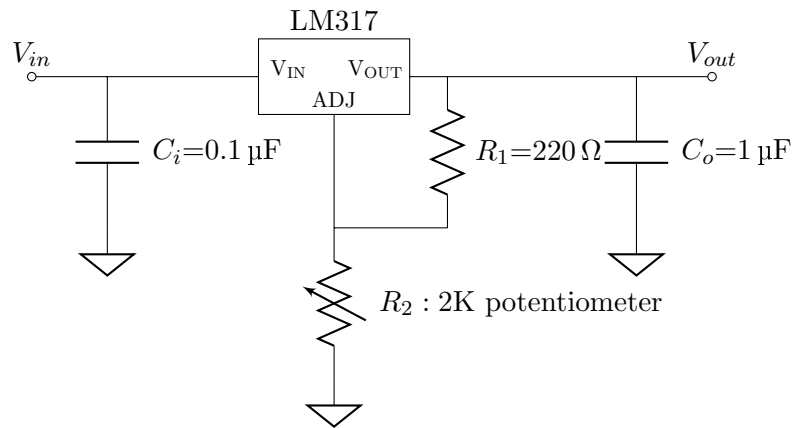
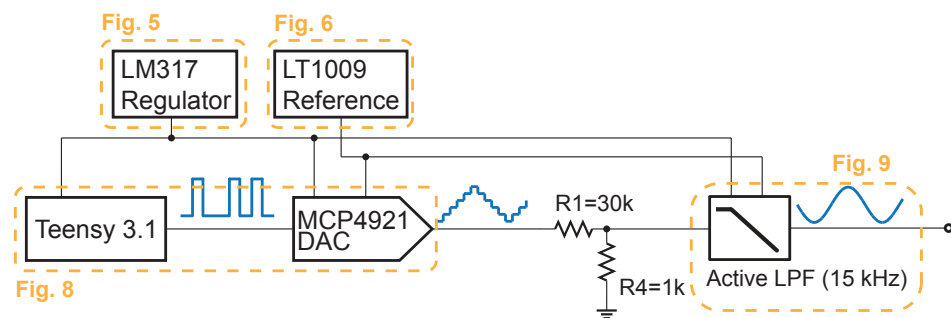

Figure 5: Schematic of the voltage regulator circuit using LM317.
Figure 11: Block diagram of the PCB design.
1. Using Fig. 5 as a reference, build the regulator circuit on the breadboard. You should be able to find the LM317 pinout diagram from its datasheet, which you find from online. *As a general suggestion, it is important to keep your circuit well laid out and keep the connecting wires as short as*
Design a PCB incorporating the circuits of Fig. 5, 7, 9, and 10. We will add a resistive attenuator circuit just so that the output does not easily saturate. Fig. 11 shows a high level block diagram of the PCB.